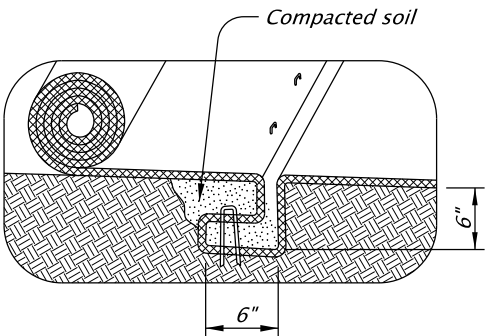

FIGURE A3:
3. Construct check slots across channel bottom at 25' spacing and at the end of each mat (Fig. A3 or A4).